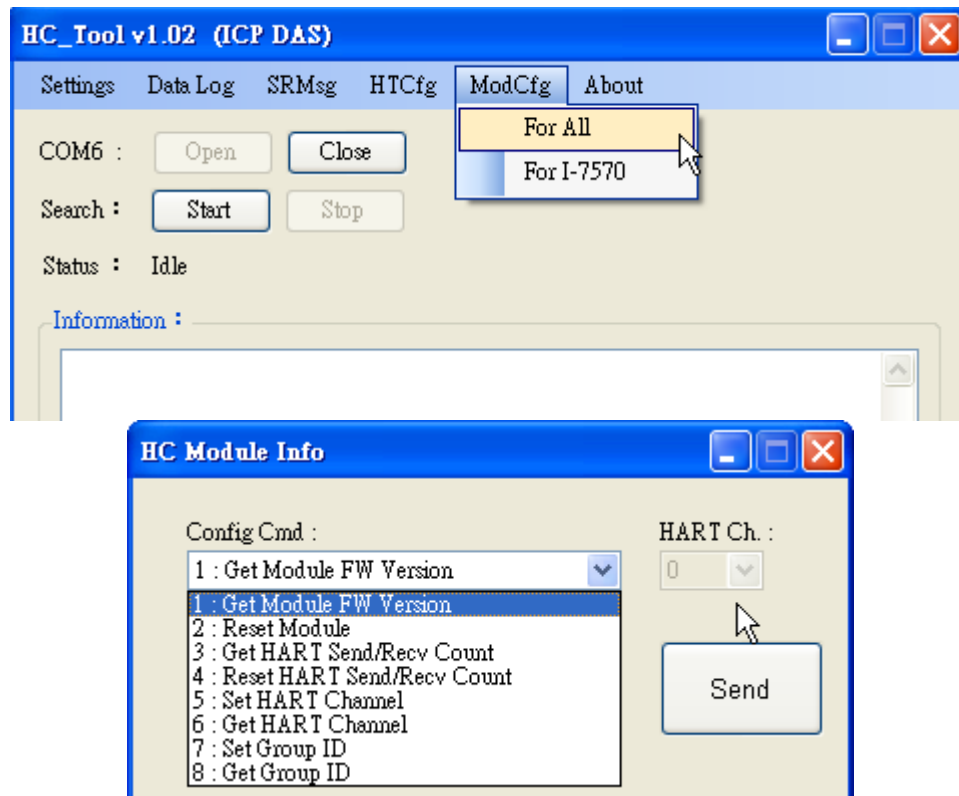

Figure 4-4 “For All” Option - Configuration Screen
Step 3: Click the “**ModCfg**” item and choose the “**For All**” option. Then it will open module configuration screen like Figure 4-4.